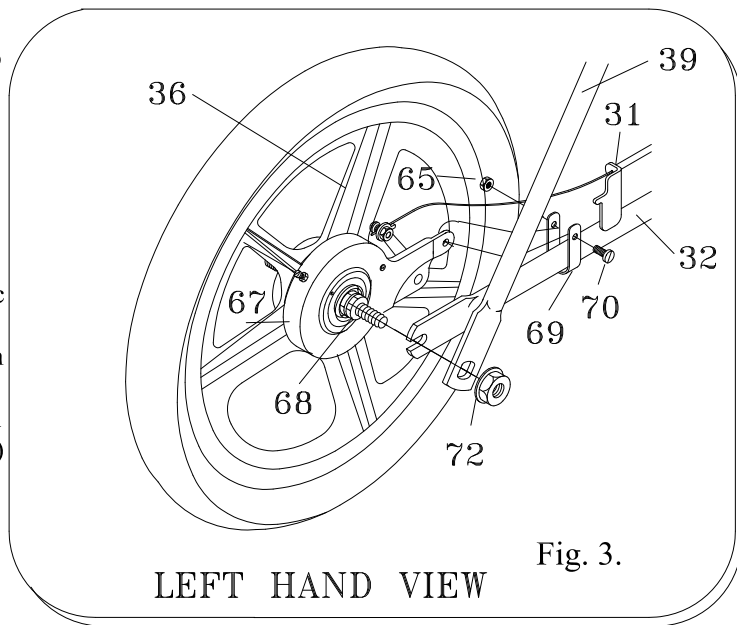

Fig. 3.
Remove the Front Fork (32) and Strut (39). Place the front wheel (36) into front fork with the band brake (67) on the left side and on top of fork tube. Position the front struts (39) over the axle, center wheel in the fork assembly and secure axle nuts (72). (see figure 3)
Attach the brake strap (69) to the frame by bending it into a "U" shape and sliding it over the left side of fork, from the bottom up (see figure 3.). Align the brake strap around the brake arm and insert screw (70) from the outside through the strap and arm. If necessary, rebend the brake strap and use an awl to align all three holes. Secure with nut (65).